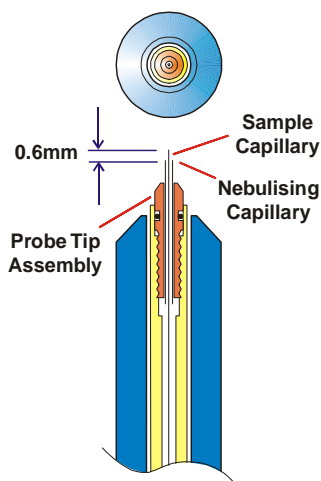

Figure 3-5 Electro spray Tip
*There should be approximately 0.5 mm of sample capillary protruding from the nebulizing capillary (Figure 3-5).*